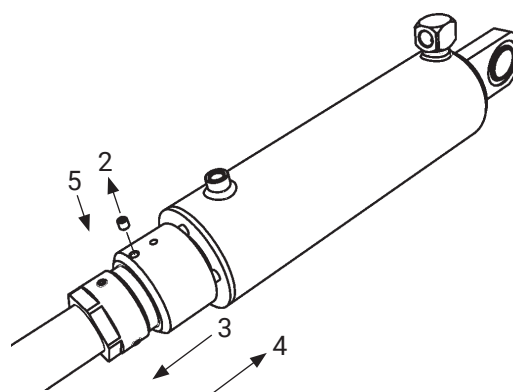

Figure 35. End stop with lock screw
2. Loosen the lock screw of the end stop (2). Screw the stop all the way back toward the platform (3). Figure 35.
4. Adjust the end stop all the way to the top of the cylinder (4). Figure 35.